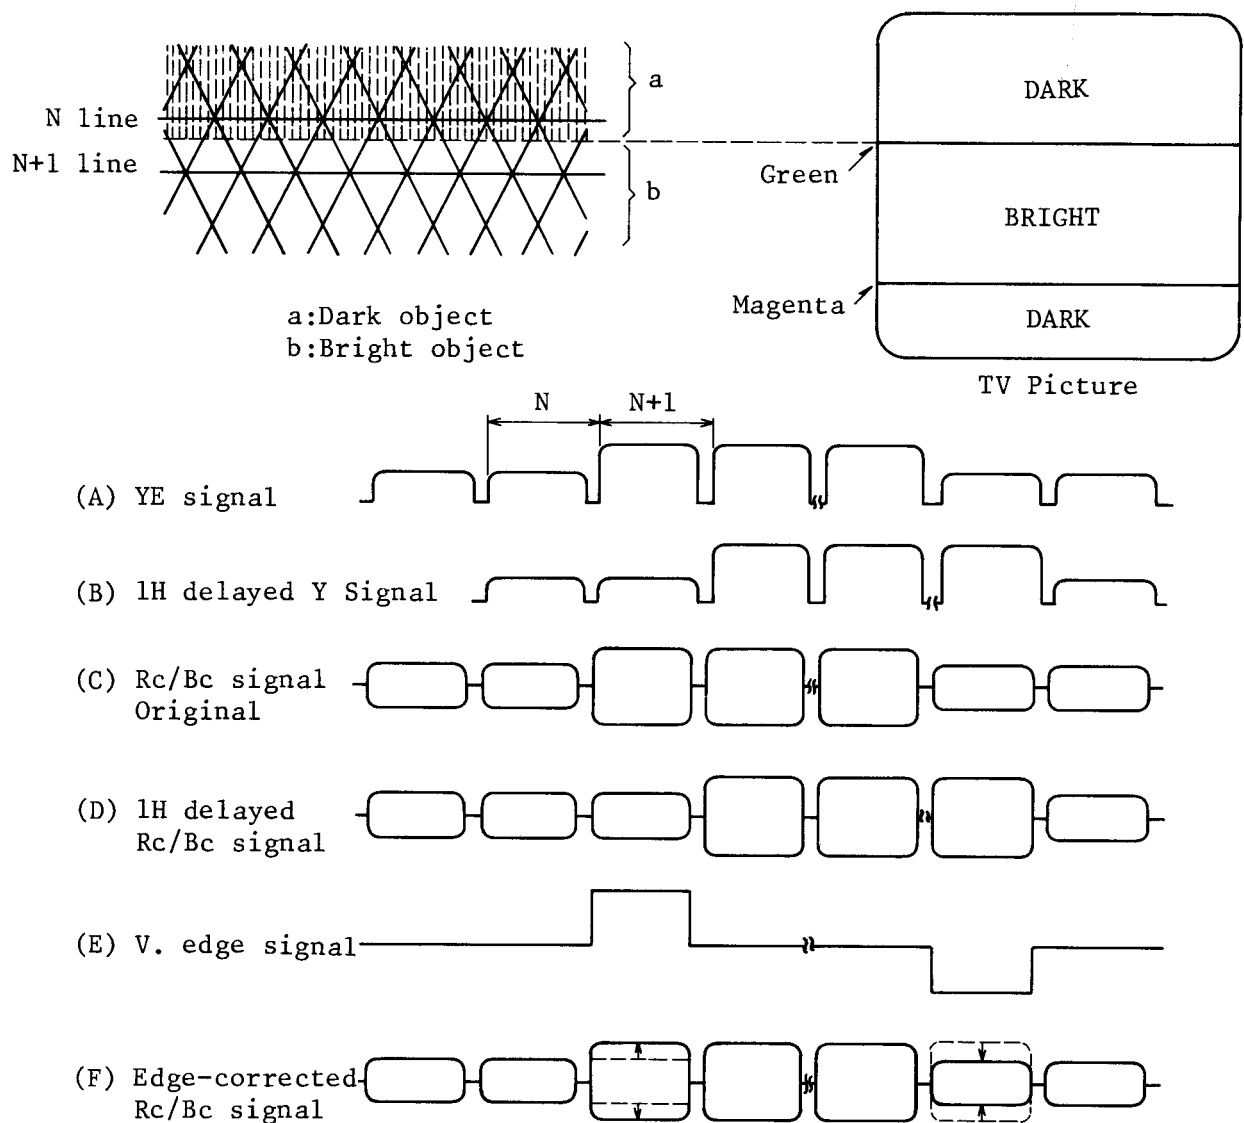

Fig. 19. Color Correction
When the camera views a dark-to-bright, or bright-to-dark transition as shown in Fig. 19, the undelayed Rc/Bc signal appears as in Fig. 19 (C), and the Rc/Bc signal delayed one line (1H) appears as in (D). When we make the transition from dark to bright the Rc/Bc (C) and (D) signals are not of equal level on the $N + 1$ line and an error signal (green) is created along the vertical edge of the transition.